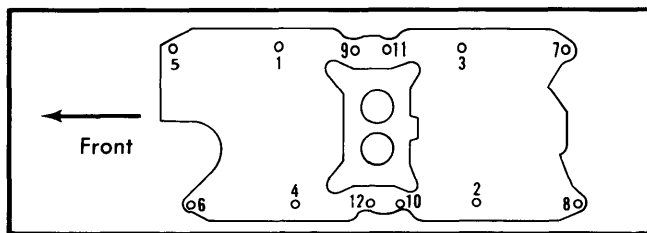

Fig. 1 Intake Manifold Tightening Sequence
2) Position gaskets so they are interlocked with seal tabs. Using guide pins, lower manifold onto engine and check for correct positioning of gaskets and seals before installing bolts. Remove guide pins, install bolts and tighten to specification, following the sequence shown in Fig. 1.